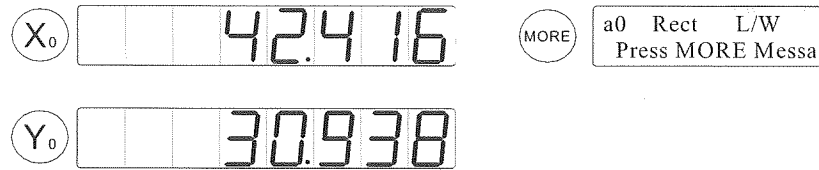
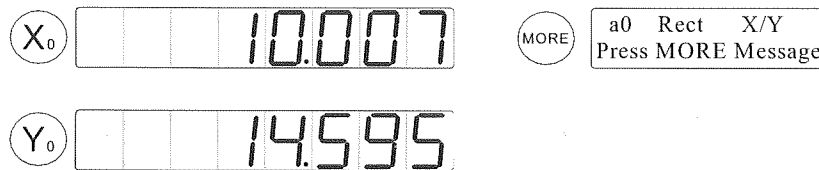

Figure 2-55 Rectangle Message
Figure 2-56 Rectangle Message
- 7) Continue the process until all of the requisite points have been targeted and entered. The Rectangle Feature data will be displayed as in figure 2-55 and the feature will be added to the feature list with its data. In figure 2-56, length of the Rectangle is displayed on the X axis and width of the Rectangle is displayed on the Y axis.
- 8) Press the **MORE** key to view the center of the rectangle. (Figure 2-56)